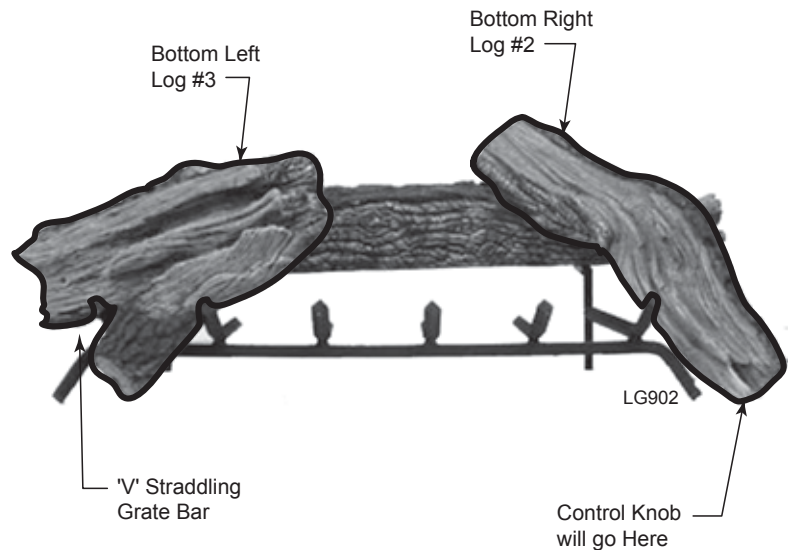

**Figure 108 -
3. Place Bottom Right Log #2 along outside of grate. Rest end on Rear Log #1. Control knob will stick through bottom notch of log. *Figure 108*
4. Place Bottom Left Log #3 on grate. The "V" of the log should straddle the end grate bar. *Figure 108*